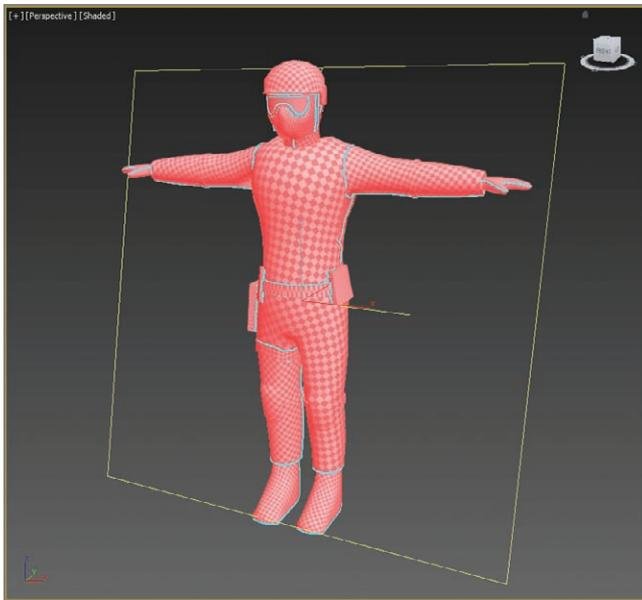

FIGURE 11.23 Soldier model with all the polygons selected
As you can see in Figure 11.23, when the UVs are finished, the squares in the checker pattern on different parts of the soldier are different sizes. In the
2. Click away from the soldier model and drag a selection box around the whole model to select all the polygons, as shown in Figure 11.23.